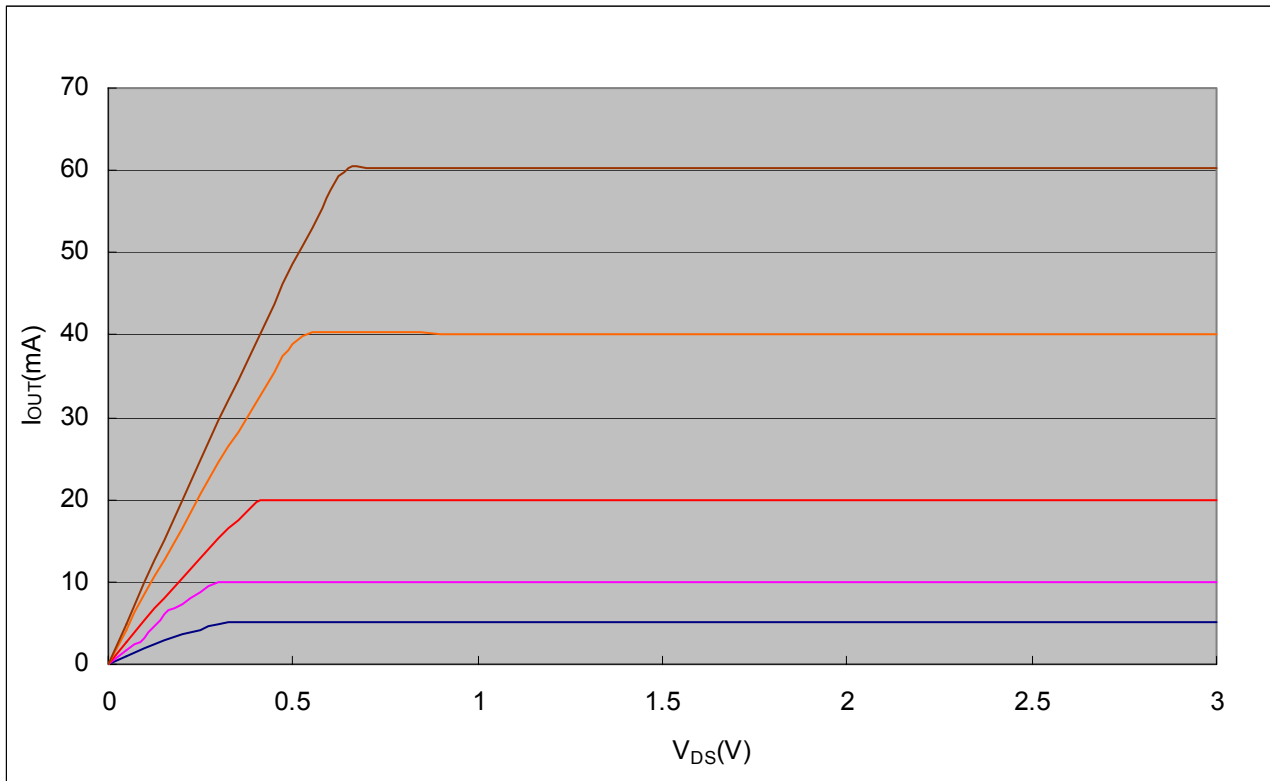

Figure 10
- 2) In addition, the current characteristic of output stage is flat and users can refer to Figure 10. The output current can be kept constant regardless of the variations of LED forward voltages (V_F). This guarantees LED to be performed on the same brightness as user's specification.